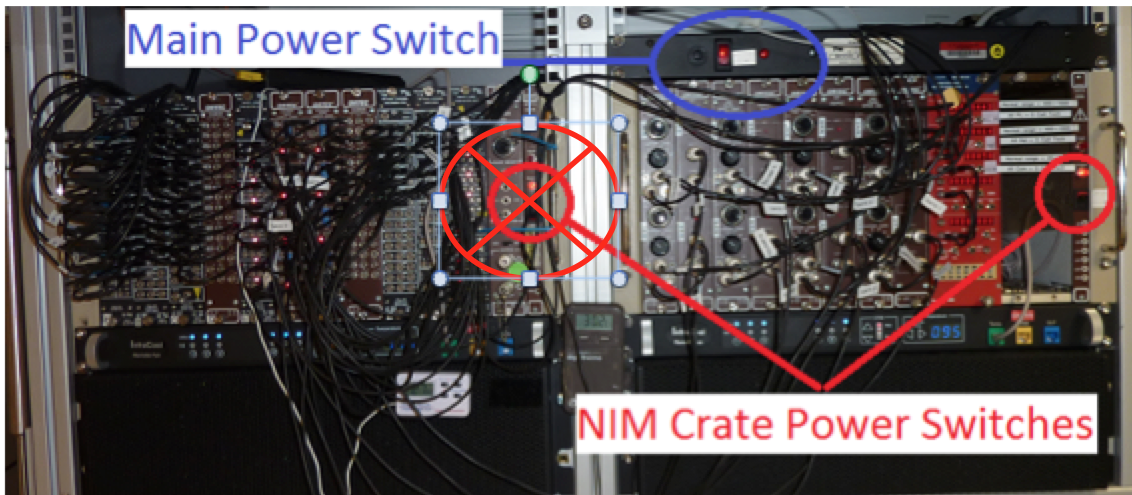

Figure 15. Electronics Crate: Shutdown.
- Turn off the NaI(Tl) detector electronics (right-hand NIM rack next to iSEG crate; Fig. 15). This will turn off the high-voltage supply to all 8 NaI(Tl) detectors. **Do not turn off the left-hand NIM rack (marked with a circled X in Figure 12 below) or the main power (blue circle) at this time.**
- Do **not change the voltage** at any NaI(Tl) detector at the junction box!!! Remember if you need to switch off the High Voltage you must switch off the whole right-hand NIM crate (right-hand NIM crate button in Fig. 15), which will turn the high voltage off from all NaI(Tl) detectors simultaneously.
2. Turn on the master power button above the middle NIM rack (blue circle in Fig. 15).
4. Turn on the NaI(Tl) detector electronics (right-hand NIM rack next to iSEG crate, the right red circle in Fig. 15), only after ensuring that the fan under it is working.
5. Turn on the fast signal processing electronics (left-hand NIM rack, the left red circle in Fig. 15).